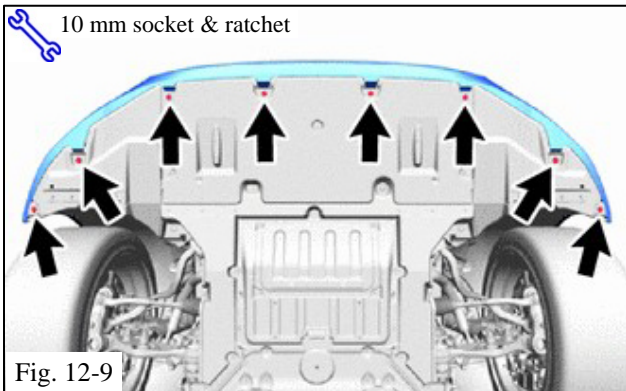

Fig. 12-9
- (l) Reinstall the 8 bolts removed in Step 3(b) (Fig. 12-9).